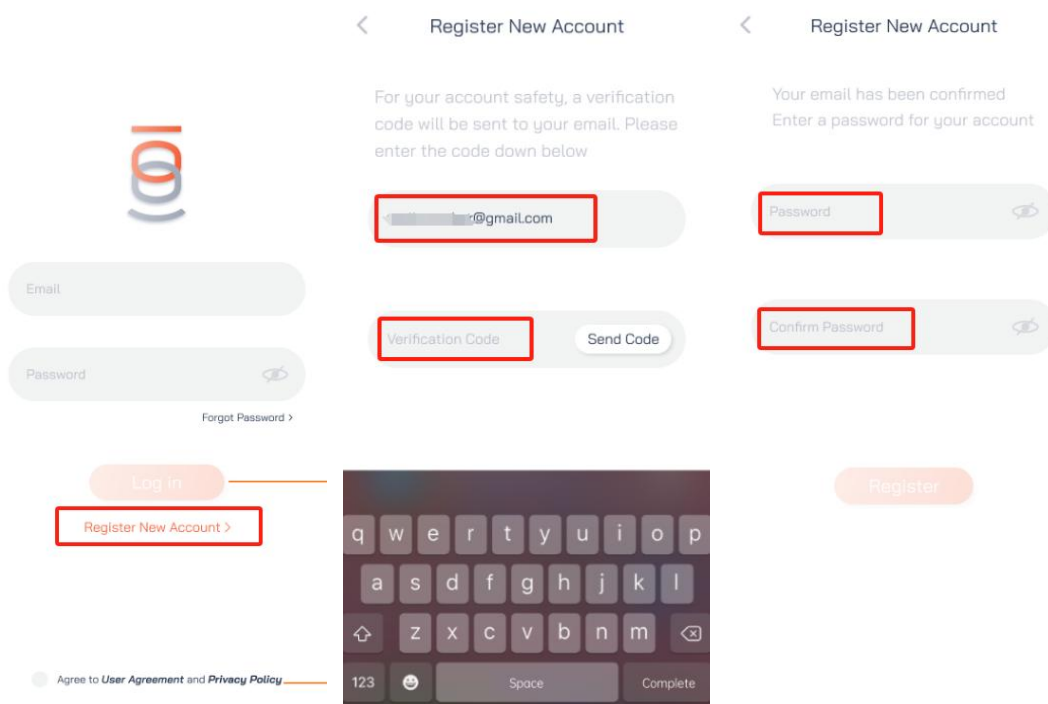
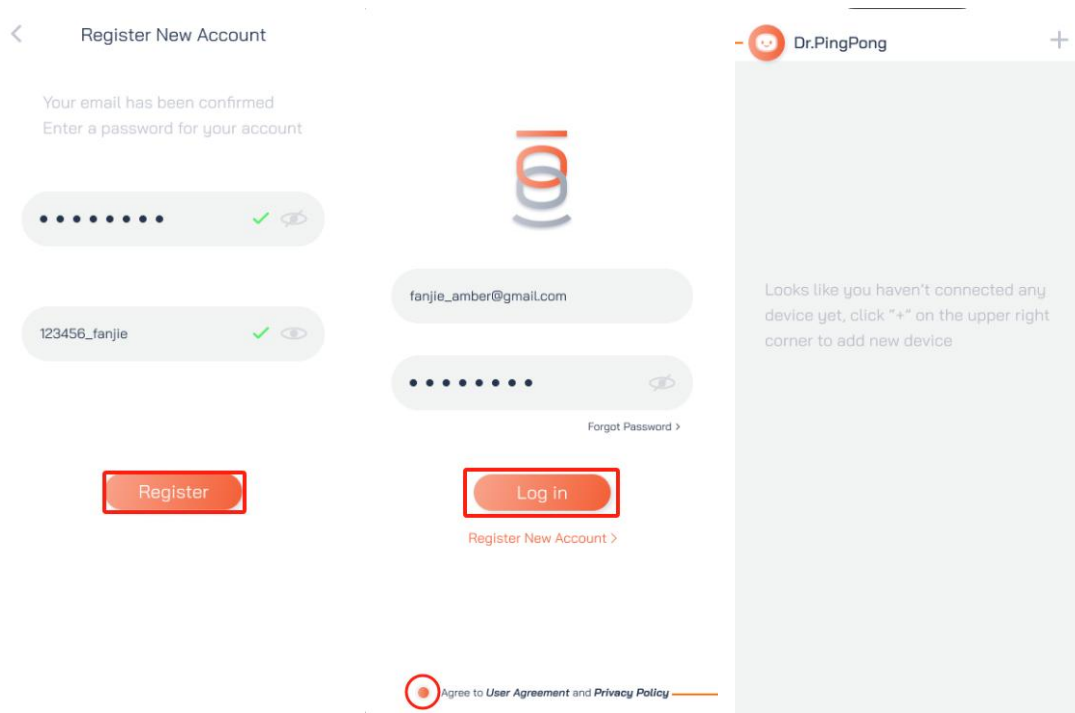

Figure 3-1
Figure 3-2
3.2.1. After opening the APP, new users click on "Register a new account" on the login interface and register according to the prompts. After successful registration, they can log in with their account and password. During registration, the verification code is valid for 60 minutes. (Figure 3-1, Figure 3-2)